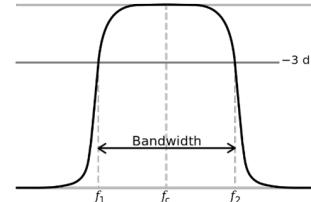

FIGURE 5. Illustration of Q . (credit: Wikipedia)
2.3. Resonator Quality Factor. The *quality factor* Q of a resonator is defined as the ratio of the resonant frequency to the 3 dB bandwidth of the resonance. The 3 dB bandwidth (Fig. 5) is defined as the width where the resonator response falls from its peak gain or attenuation (notch filter) by 3 dB, which is a factor of 2 in power or $\sqrt{2}$ in gain. The bandwidth is defined as the full width $BW = 2\Delta\omega$, which is twice the frequency detuning $\Delta\omega = \omega - \omega_0$ needed to decrease the gain by $\sqrt{2}$.